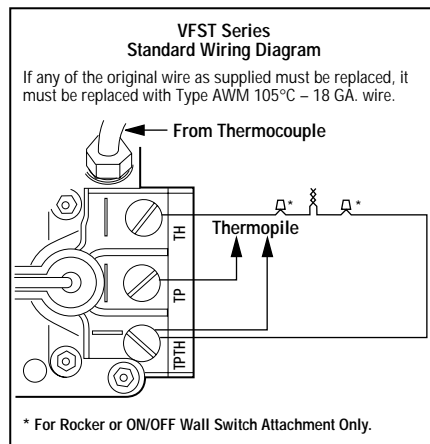

Figure 12
Step 6. Installing the Optional Remote Wall Switch – The standard millivolt system comes from the factory wired as shown in *Figure 12*. Select a convenient location for the remote wall switch and connect the wiring to the appliance (*Figure 13*).